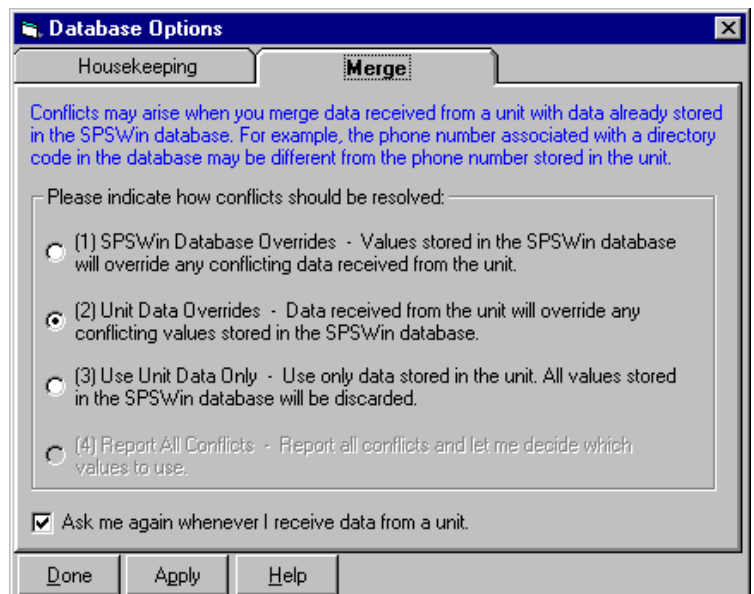

Figure 56: Merge Feature Window
- 1 From the SPSWin Main Window Toolbar, click on Database, then Options to display the Database Options window (Figure 56).
- 1 Select the desired merge option (see Figure 56).